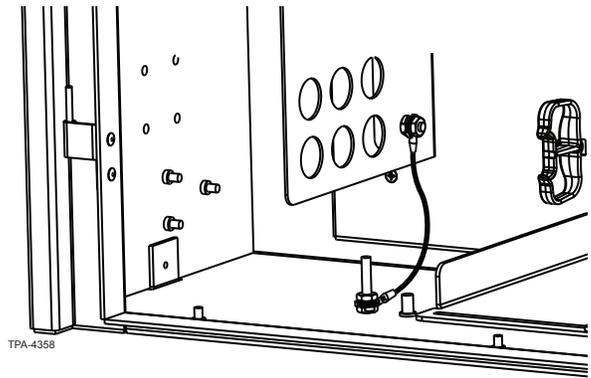

Figure 15
- Step 2:** Attach the other end to the ground stud on the cable clamp mounting panel (Figure 15).